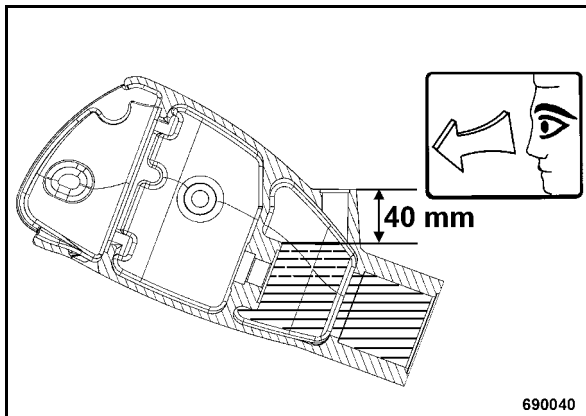

Fig. 64
- Check whether the hydraulic oil level is approx. 40 mm below the filler opening (Fig. 64) (see mark on steering rod head), top up hydraulic oil if necessary.